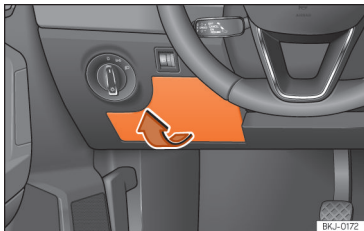

Fig. 63 On the dashboard on the driver side: lid of the fuse box.
- Open: remove the fuse box cover in the direction indicated »» **Fig. 63**.